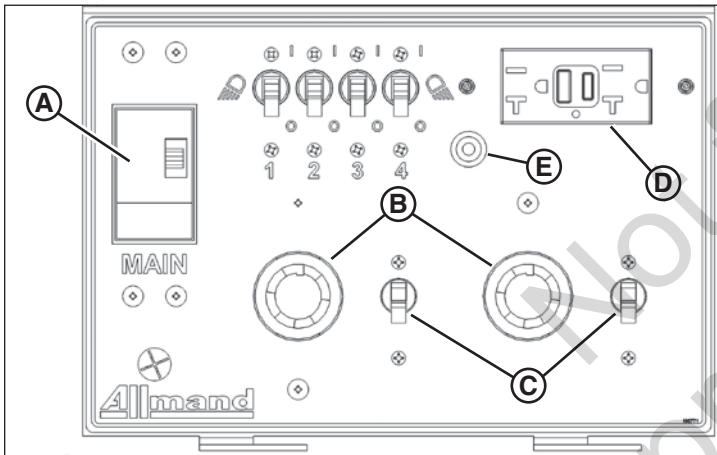

Figure 32
- Two Twistlock outlets (B, Figure 32), each protected by a 30A circuit breaker (C), and one GFCI outlet (D), protected by a 20A circuit breaker (E), OR